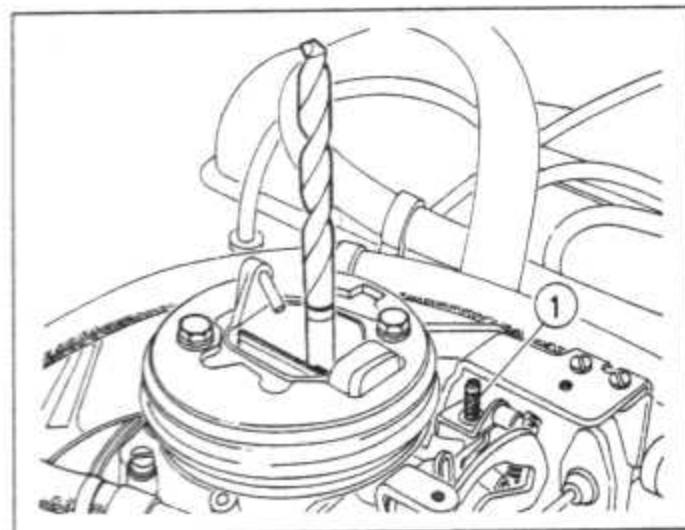
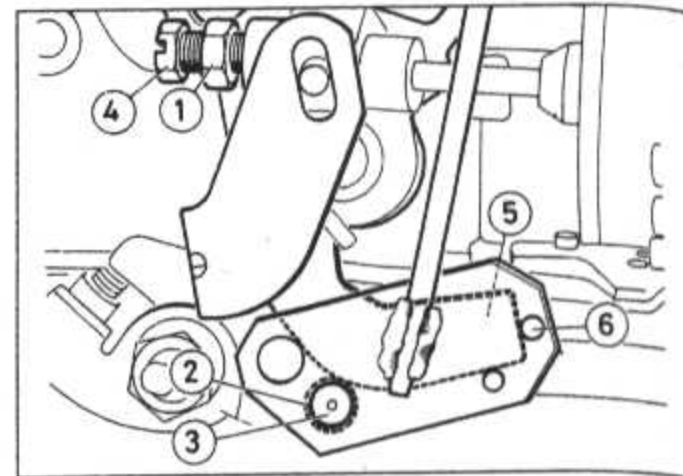

Fig. 13.20 COAS adjusting screw (1) on the Weber 36 TLC carburettor (Sec 7)
Fig. 13.19 COAS adjustment on the Weber 36 TLC carburettor (Sec 7)
17 Refer to Fig. 13.19 and fit the tool as shown, then turn screw (4) until the cam (5) contacts the tool peg (6). Using a 9.5 mm drill, check that the choke flap has opened by 9.5 mm - if not adjust screw (1) (Fig. 13.20).